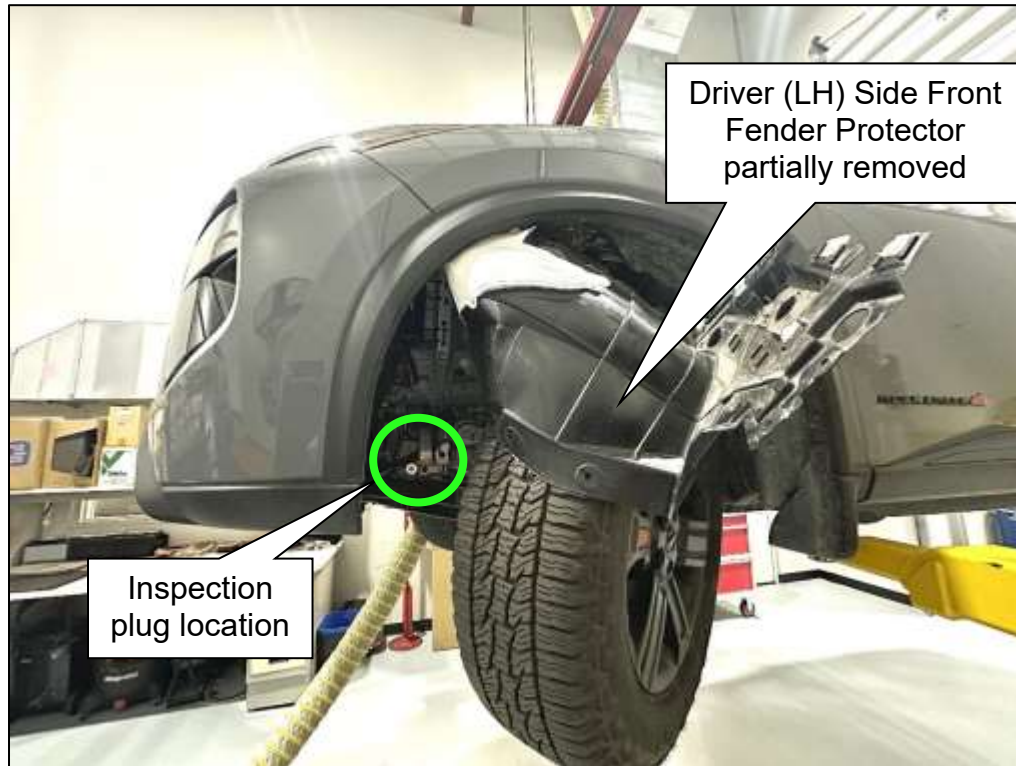

Figure 7
10. Partially remove the driver (LH) side Front Fender Protector (Figure 7).
- Pull up the driver (LH) side Front Fender Protector and wedge it against the driver (LH) side front tire.